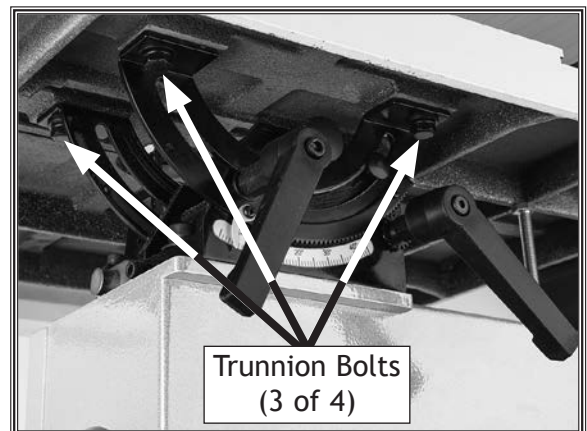

Figure 59. Location of trunnion bolts.
5. Loosen trunnion bolts that secure table (see **Figure 59**).
3. Determine which trunnion is on low side of table, then remove two trunnion bolts (see **Figure 59**) from low trunnion.